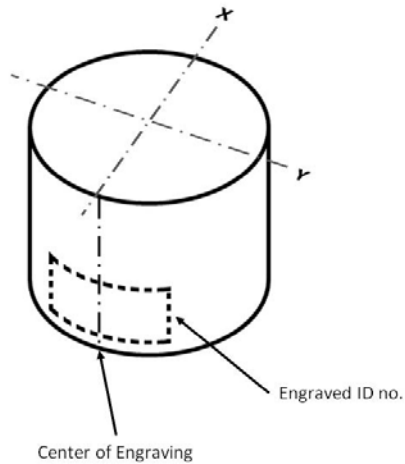

Figure 6 - Orthogonal Lines Used for Lifter Profile Measurements
4.7.1. Profile traces are taken on two orthogonal lines as shown in Figure 6.